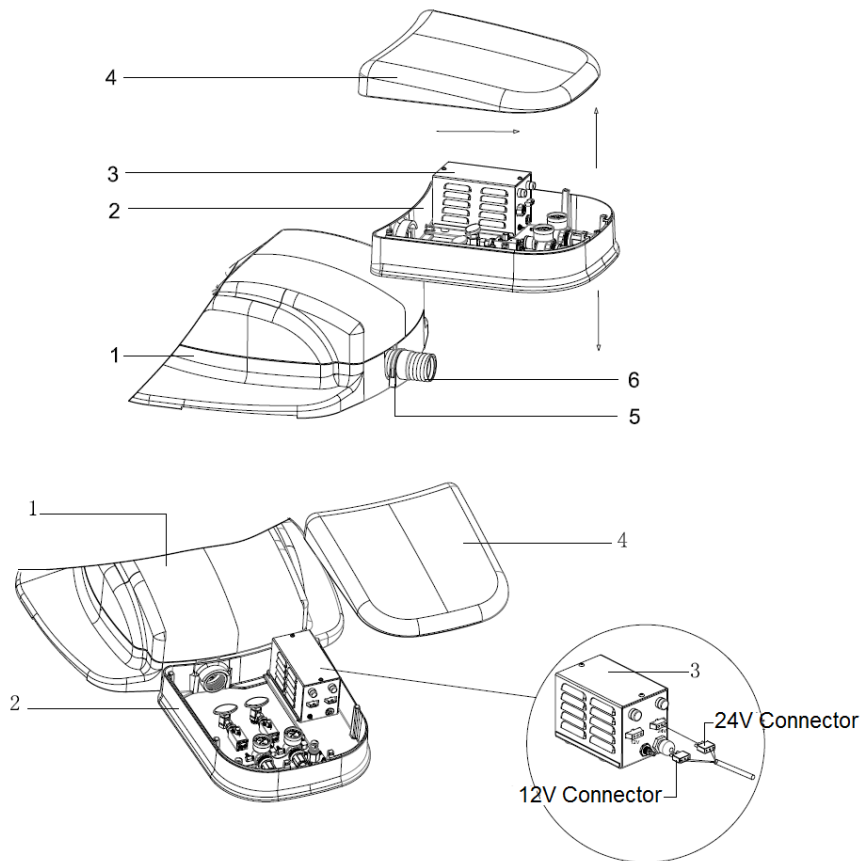

Figure 15. Contoured Utility Center Installation
1. Remove the upper cover ④ from the contoured utility center ②.
6. Install the 2" corrugated tubing ⑥ to the contoured utility center with the corrugated tubing clip ⑤ and two flat head screws.
7. Install the voltage transformer ③ in the specified location as shown on Figure 15.